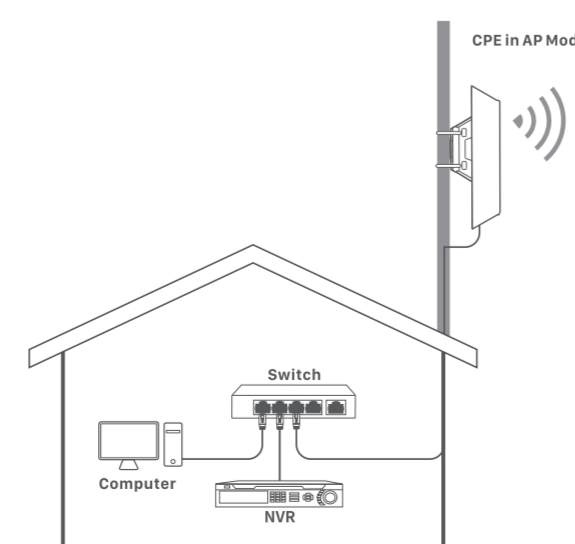

Figure 1: Monitor Center
- The CPE (transmitter in AP mode) with LED1, LED2 and LED3 solid on should be connected to the switch connecting to a network video recorder (NVR). See **Figure 1**.